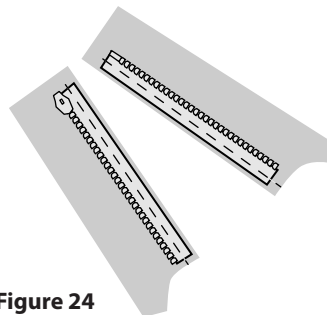

Figure 24
2. Unzip zipper, separating the two pieces. Lay each side face down on its respective front piece, right sides together, with edge of tape even with cut edge of each garment front. Baste in place. (Figure 24)